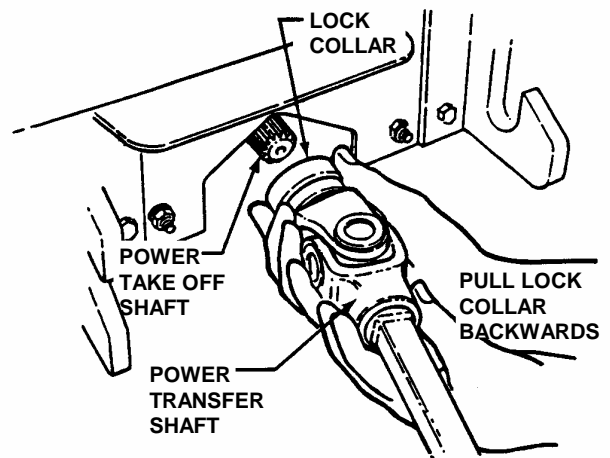

FIGURE 3.11
6. Pull lock collar back and slide power transfer shaft away from power take off (PTO) shaft. See Figure 3.11.
Engage parking brake. Turn engine "OFF" and remove key. The power transfer shaft connects the power unit to the mower deck. The shaft is telescoping for easy removal. Slide locking collar back toward mower deck and shaft will slide off. Refer to Figure 3.11.